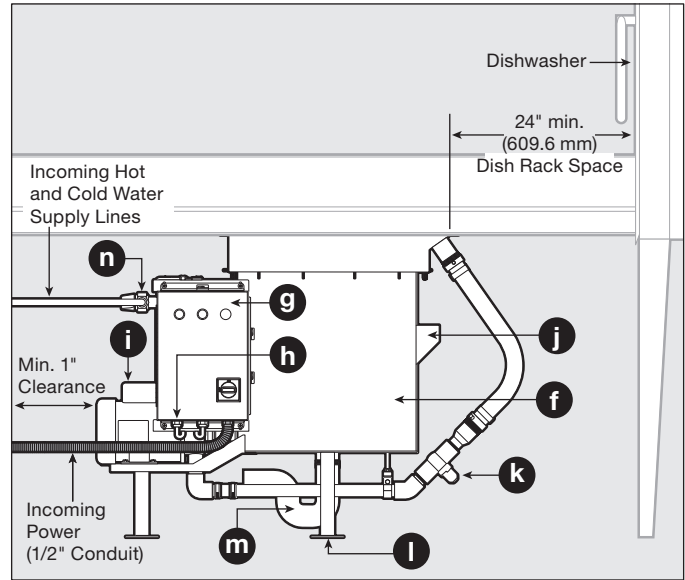
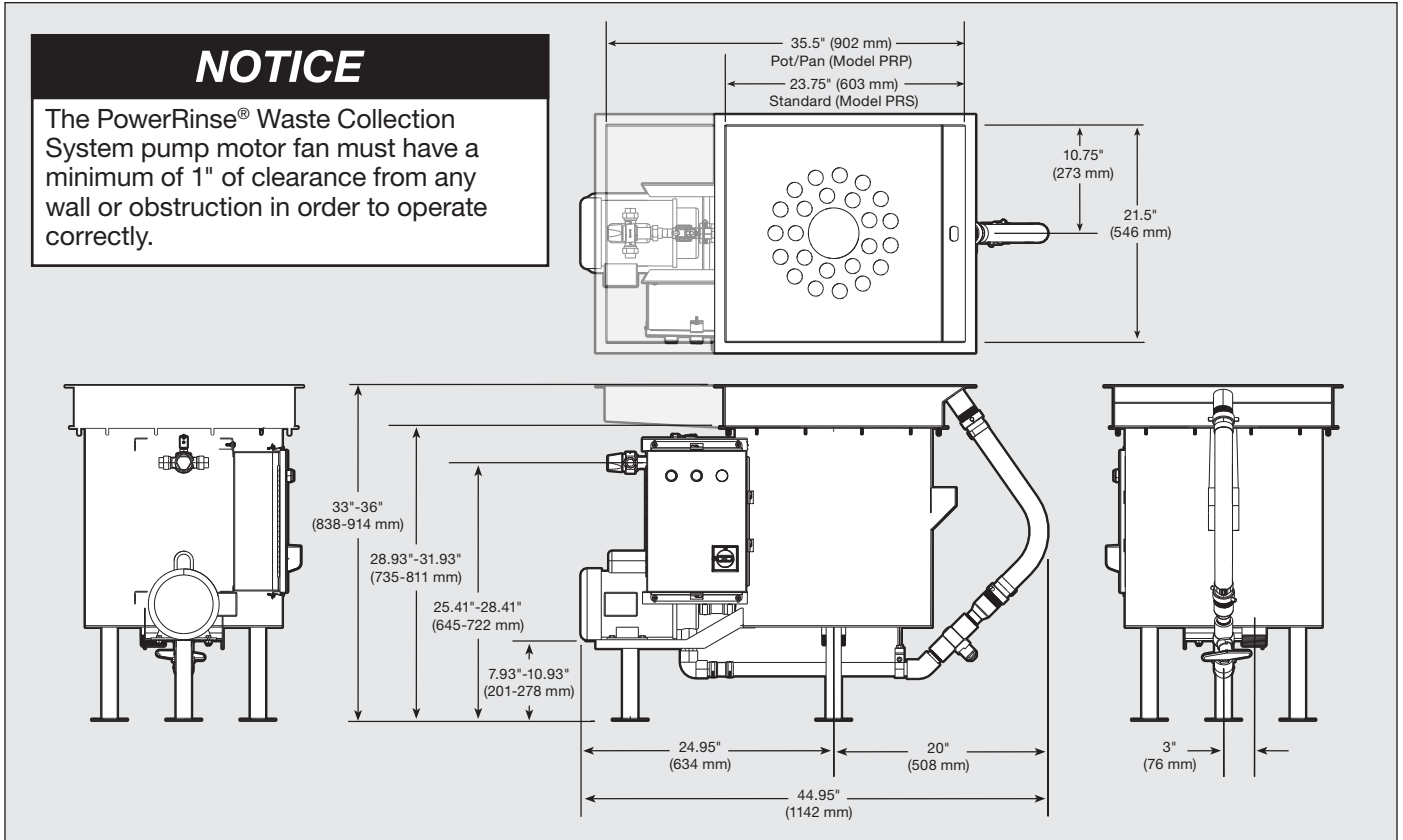

Figure 4. Typical Installation
Figure 5. PowerRinse® Waste Collection System Dimensions
The PowerRinse Waste Collection System is CUL® US Listed when installed in conjunction with InSinkErator pumps and controls, and per the installation instructions in this Installation, Care, and Use Manual (see Figure 4 for typical installation).
- e. Waste Collector Base Assembly (see Figure 4)
Figure 4 illustrates the typical installation of the PowerRinse® Waste Collection System. For a complete list of system components refer to the System Components list located to the left of Figure 4. See Figure 5 on next page for system dimensions.